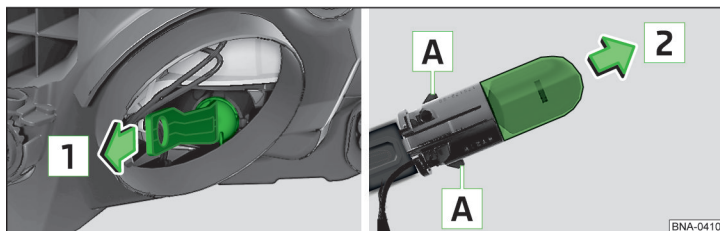

Fig. 113 Changing the bulb for the turn signal light
- › Remove the pedestal with the bulb by jiggling it out in the direction of arrow **1** » fig. 113.